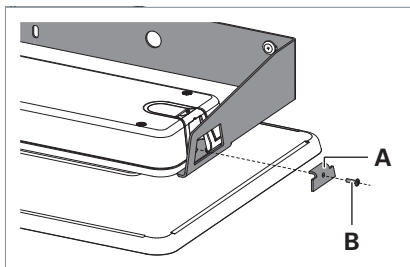

Fig. 7: Screwing the bracket to the wall holder.
- ▶ Screw the bracket **A** to the wall holder using the screw **B**, see Fig. 7.